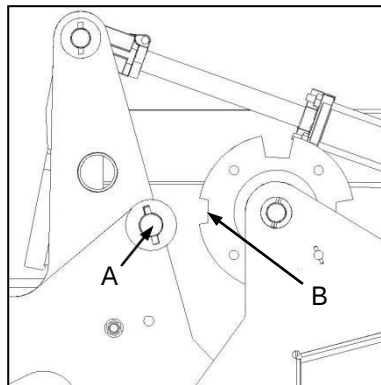

Fig. 4
- ✔ Lower the implement from the transport position such that the wheel support pin (Fig. 4-A) engages with the available slot in the rotary height selector (Fig. 4-B).
- ✔ Laat sak die implement uit die vervoerposisie totdat die wielsteunpen (Fig. 4-A) in die beskikbare gleuf in die hoogtaselektor inhaak (Fig. 4-B).